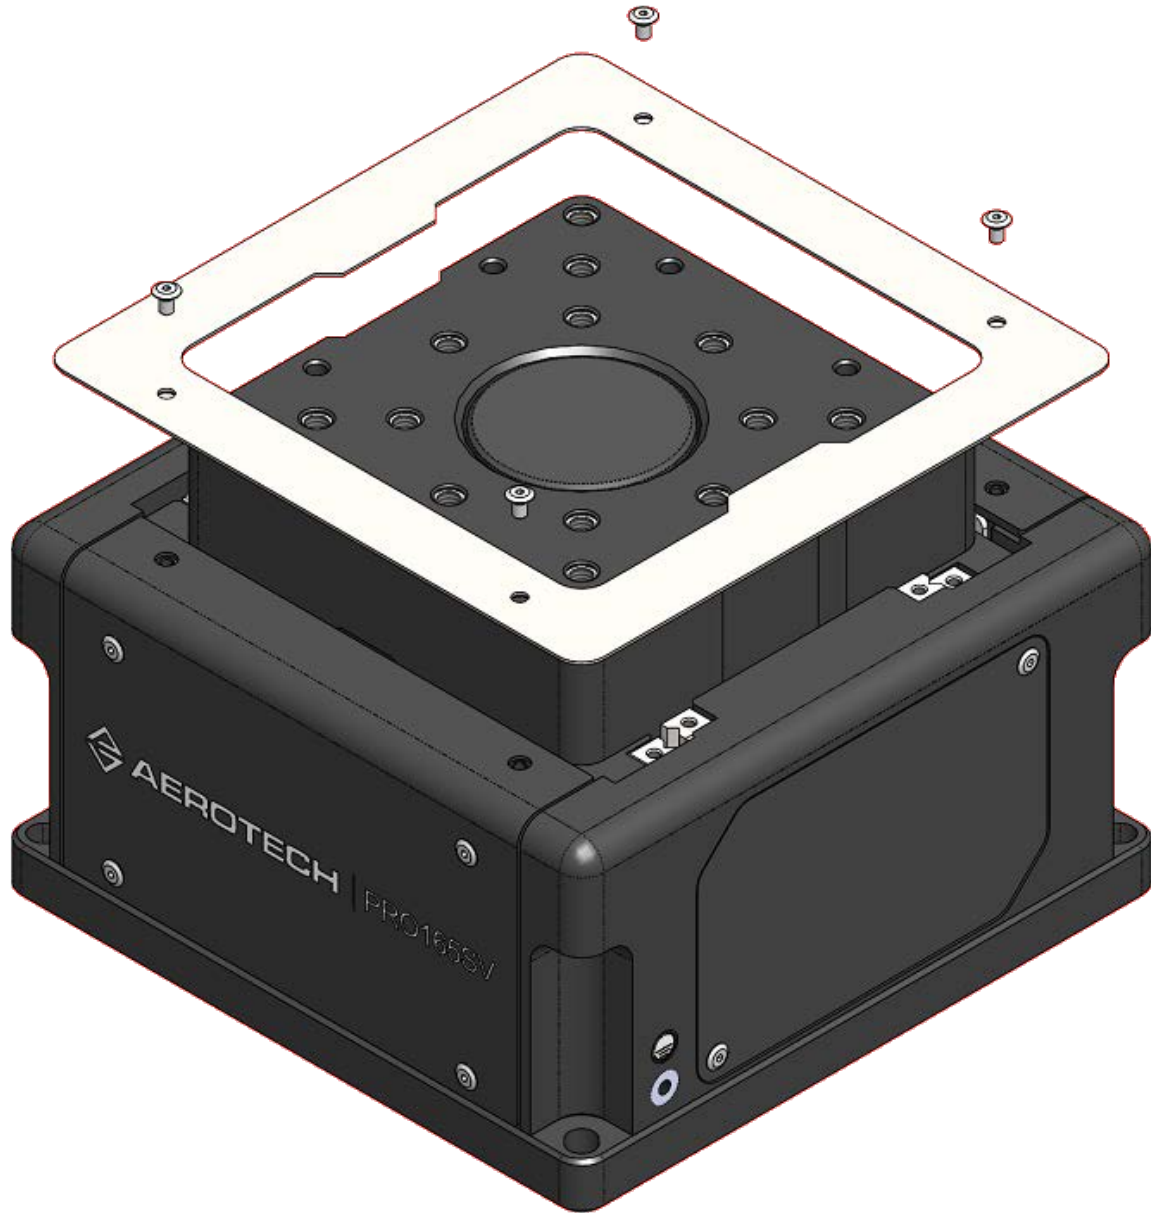

Figure 4-1: Hardcover Removal
2. Remove the top cover to get access to the linear bearings (refer to Figure 4-1).